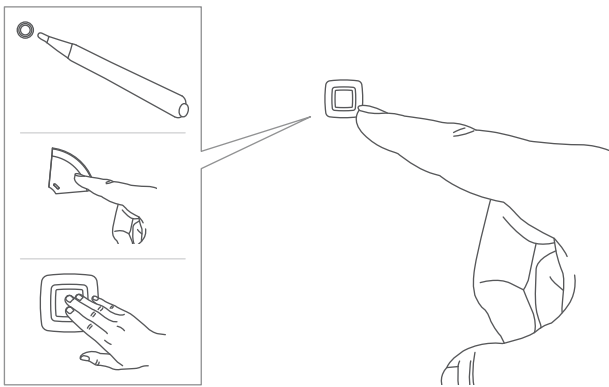

Figure 9
- Press and hold the system button for 4 seconds Fig. 9